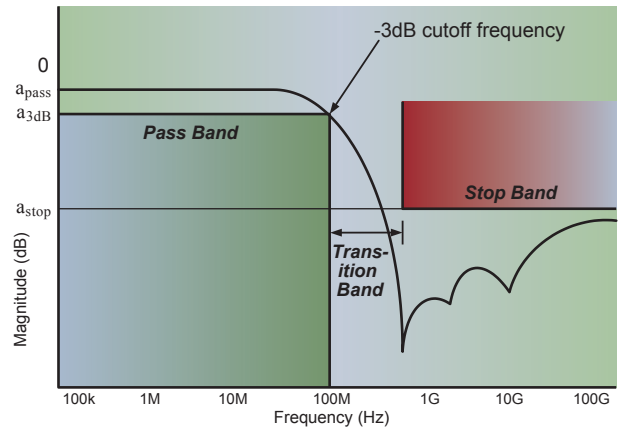

Figure 10. Single ended low pass filter characteristics
speed signals such as audio and inductor-capacitor (LC) versions for higher speeds and power sensitive interfaces. Low pass filters are available with cut off frequencies ranging from 700 MHz to up to 6 GHz. Cut off frequency is illustrated with the S21 plot in Figure 10.